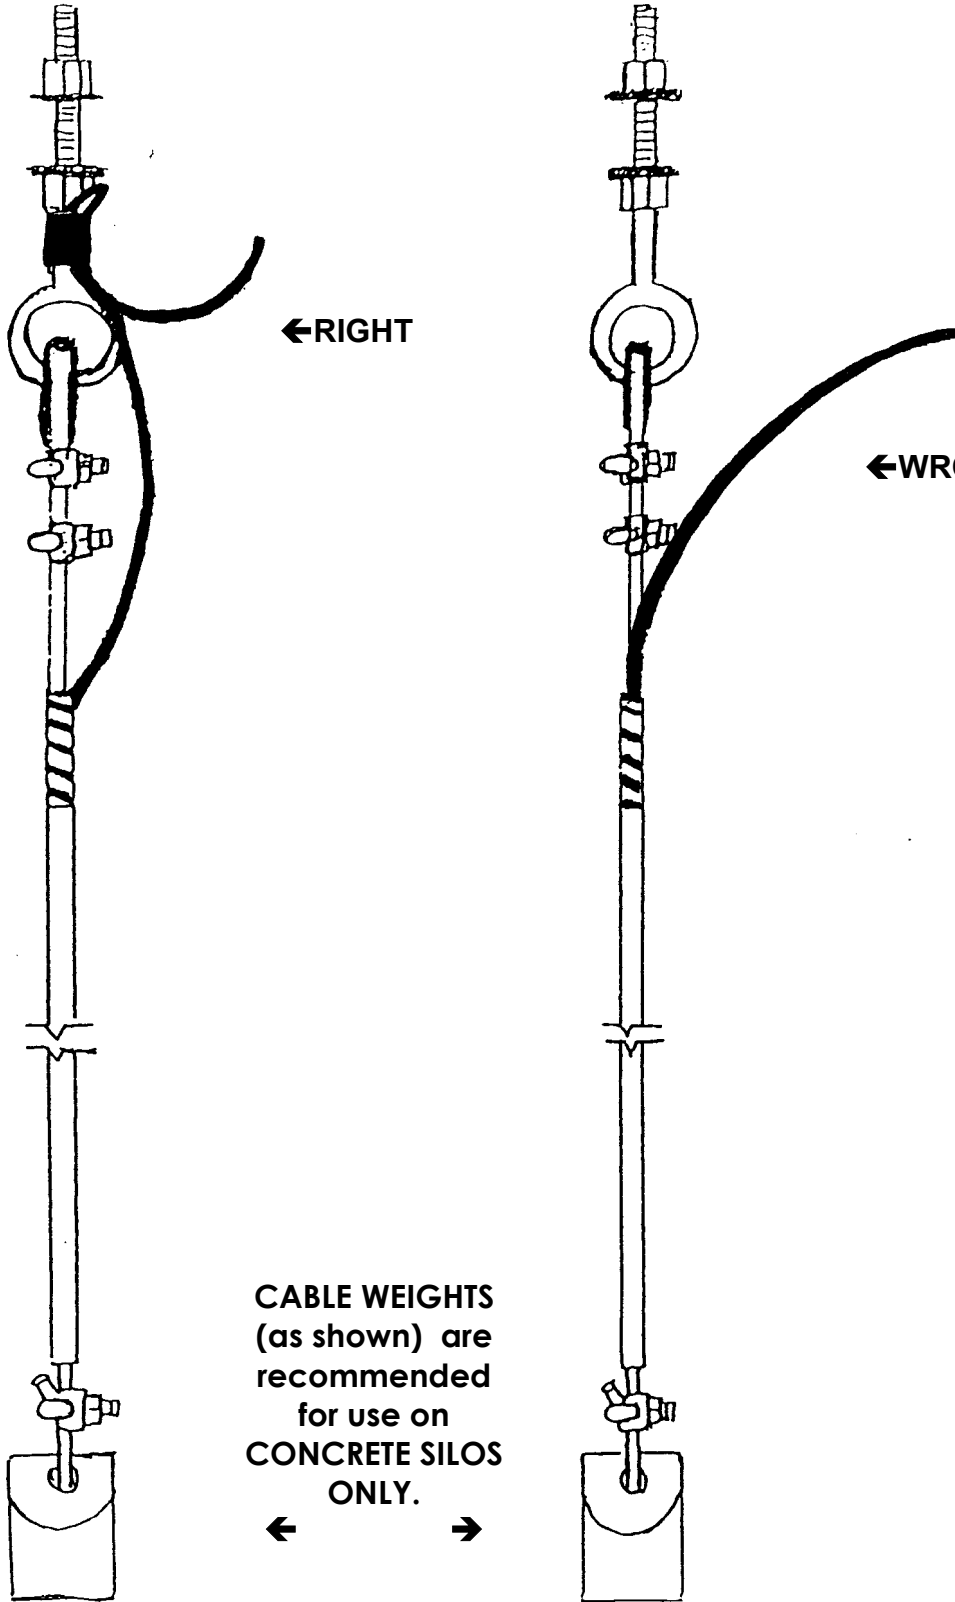

FIGURE 1.
- C. If an eyebolt is used, tape the leadwire to the eyebolt below the bottom nut. Leave enough slack in the leadwire so that the cable may swing without pulling the splice at the top of the cable apart (see *Figure 1*).